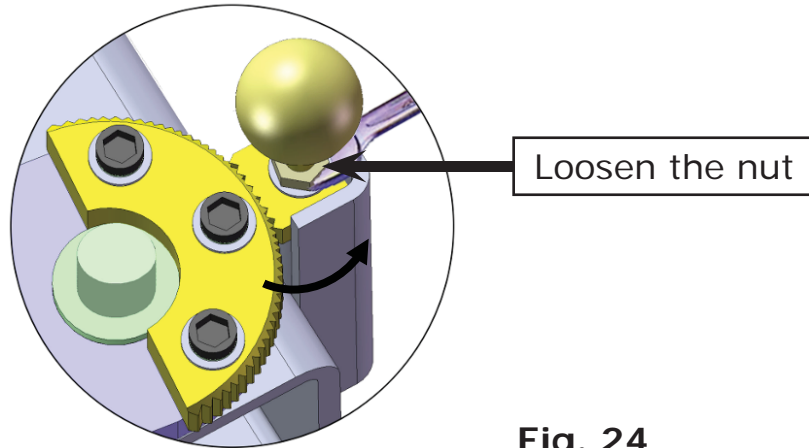

Fig. 24
2. Lower the carriages down to the lowest position, then use the 17mm wrench to loosen the nut (See Fig. 24)